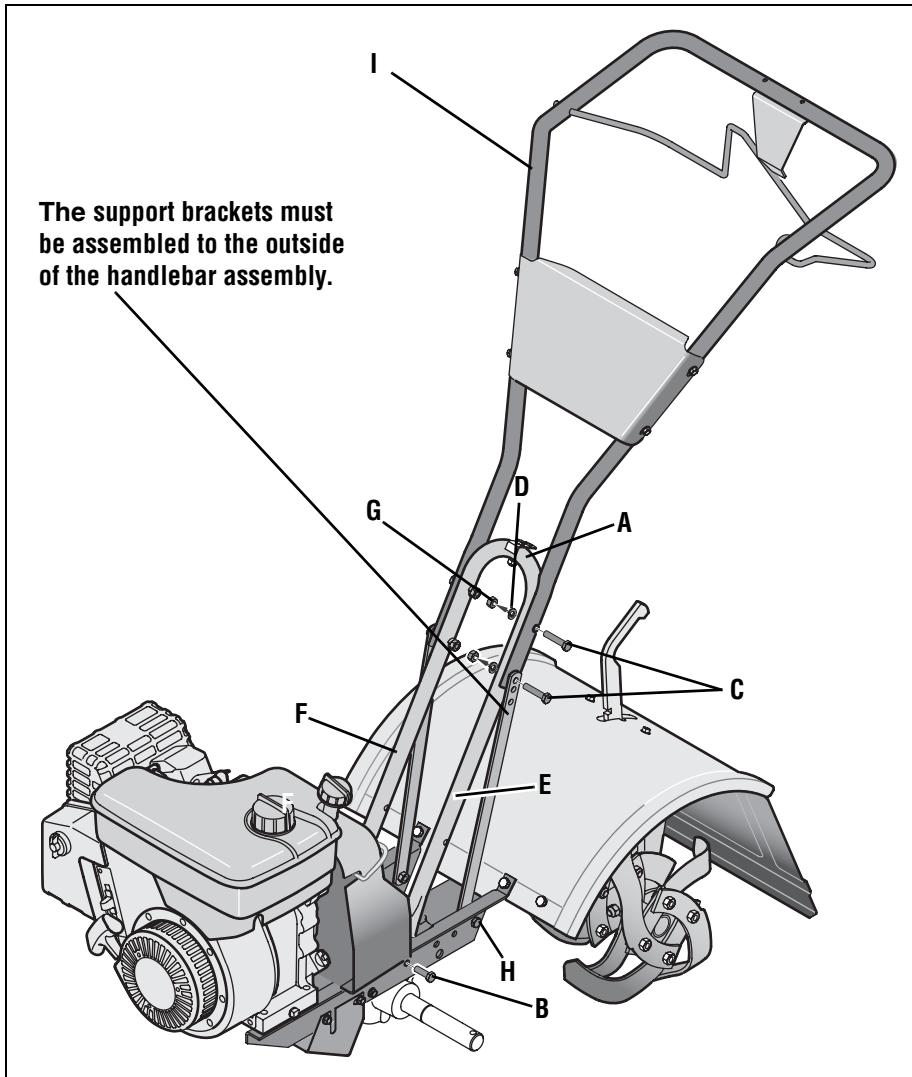

Fig. 2.2: Attach handlebar.
- 1 Handlebar Support (see A, Fig. 2-2)
- 1 Handlebar Assembly (see K, Fig. 2-2)
1. Loosely attach the legs of the handlebar support (A, Fig. 2-2) to the inner sides of the tiller frame using two 3/8"-16 x 3/4" hex hd. screws (B), 3/8" flat washers, and 3/8"-16 hex locknuts.
2. Using two 5/16"-18 x 1-1/2" screws (C), 5/16" split lock washers (D) and 5/16"-18 hex nuts (G), loosely attach the handlebar support (A) using the upper holes. Tighten the two screws securely.
3. There are three height adjustment holes in the two handlebar support brackets (E and F, Fig. 2-2). Use a setting that will position the handlebars at approximately waist level when the tines are 3"-4" into the soil. Loosely attach the support brackets to the outside of the handlebar assembly (I) using two 5/16"-18 x 1-1/2" screws (G), 5/16" split lock washers (D) and 5/16"-18 hex nuts (G). NOTE: If a support bracket will not move, loosen attaching screw (H) and nut.